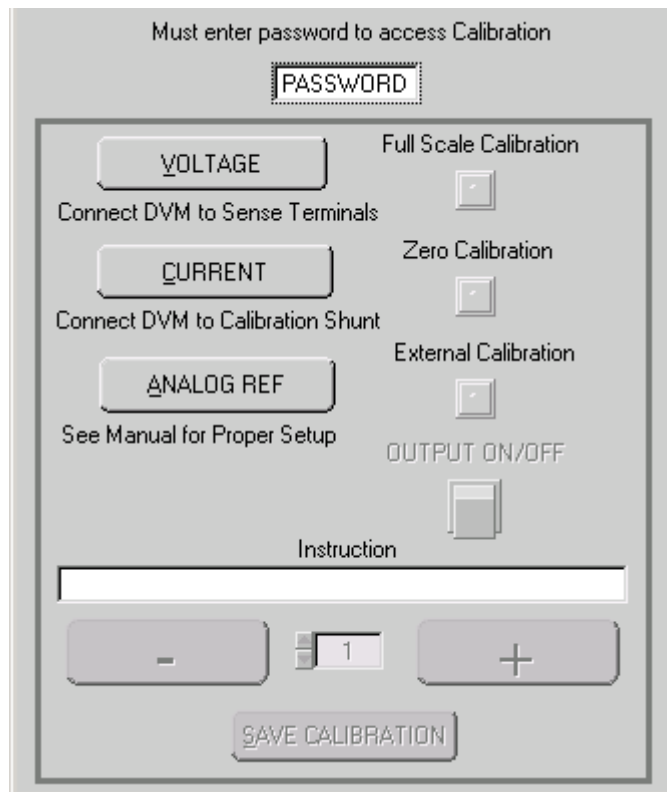

FIGURE 4-1. CALIBRATION WINDOW
6. Click the **Calibrate Access** button on the VXI plug&play demo main panel: the button label changes to **Calibrate Close** and the Calibration Window (Figure 4-1) opens with all buttons disabled (grayed out) and PASSWORD appears in the text box near the top of the window.
8. If password is correct, the status display on the VXI main panel reads CAL and the buttons on Calibration Screen (Figure 4-1) are enabled (highlighted). If the password is incorrect, the password text box displays "WRONG #". Repeat step 7 to enter the correct password, or click the **Calibrate Close** button on the VXI main panel to exit calibration.